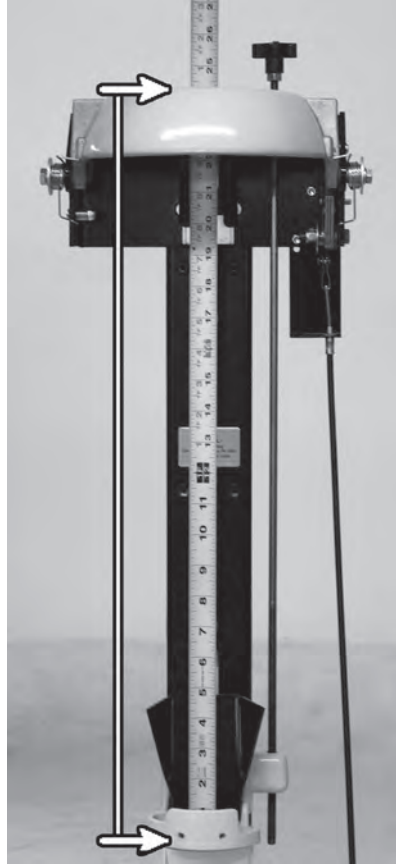

Figure 5
11. Measure the distance from the inside bottom of the Footplate to the inside top of the closed Top Clamp (*see Figure 5, page 10*). This distance should equal your overall length of the air cylinder plus 1/2". Use the Adjustment Rod Knob to turn the Footplate Adjustment Rod and achieve this measurement.